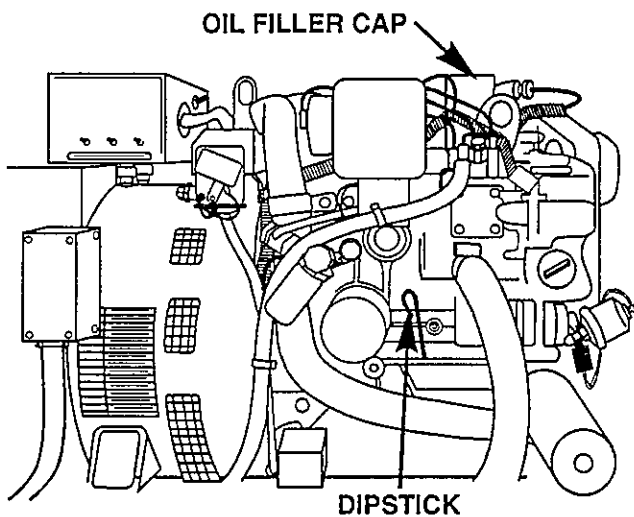

Figure 3-7 Checking Generator Oil Level
8. See Figure 3-7. Check the generator oil level. Pull out dipstick and make sure level is between high and low marks. If the generator needs oil, refer to Section 5, Maintenance for engine oil type and filling instructions.